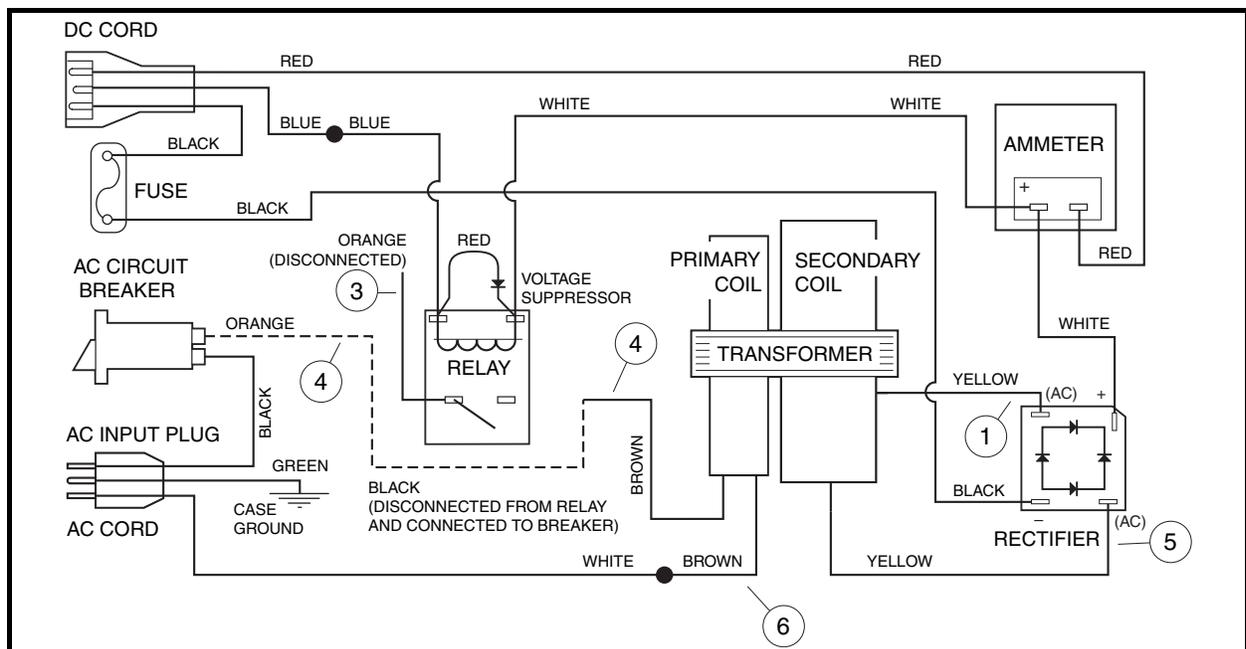

Figure 6-16 Transformer Test Wiring Diagram
- 5.2.1. To bypass the relay, remove the orange wire (3) from the AC circuit breaker and disconnect the orange wire (4) from the relay. Connect the brown wire (4) to the AC circuit breaker (**Figure 6-16, Page 6-19**).
6. If the circuit is not complete, check the wiring of the AC cord, transformer primary coil wires, and internal AC circuit breaker (**Figure 6-16, Page 6-19**).
3. Disconnect the two yellow transformer secondary coil wires (1 and 5) from the rectifier (**Figure 6-16, Page 6-19**).
- 4.1. To bypass the relay, remove the orange wire (3) from the AC circuit breaker and disconnect the brown wire (4) from the relay. Connect the brown wire (4) to the AC circuit breaker (**Figure 6-16, Page 6-19**). **See following DANGER.**
9. Connect the AC cord to the wall outlet and monitor the multimeter for the secondary coil voltage. If measured voltage is approximately 42.5 volts AC or lower for the secondary coil, the transformer is shorted internally and must be replaced (**Figure 6-16, Page 6-19**).
The GE PowerDrive battery charger transformer has two sets of coils: a primary coil and a secondary coil (**Figure 6-16, Page 6-19**).
3. Disconnect terminals from transformer (brown) primary coil transformer wires (4 and 6) (**Figure 6-16, Page 6-19**).
3. Remove the transformer (yellow) secondary coil wire (1) from the rectifier (**Figure 6-16, Page 6-19**).
4. Remove the other transformer (yellow) secondary coil wire (5) from the rectifier.